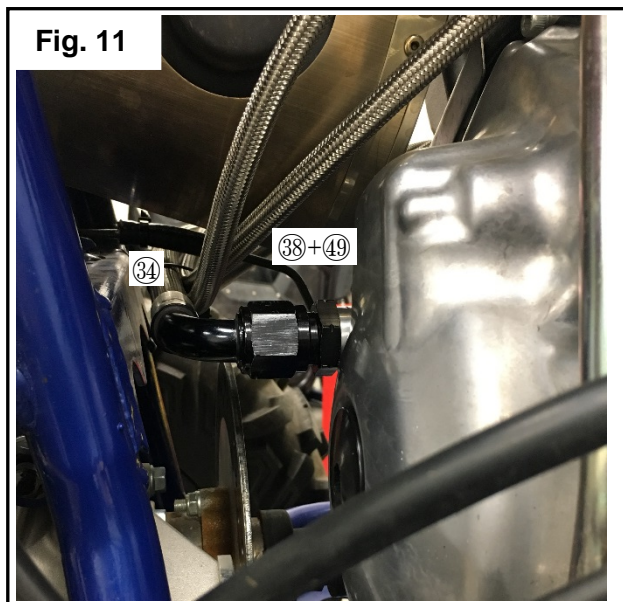

Fig. 11
- 17** Remove the small timing plug located on the upper portion of the magneto cover. Install the 14mm – 10 Straight Fitting 38 into the hole from the timing plug with the 14mm x 5mm Thick Sealing Washer 49. The 23" Oil Drain Line 34 installs onto the 14mm – 10 Straight Fitting 38 as shown in Fig. 11.